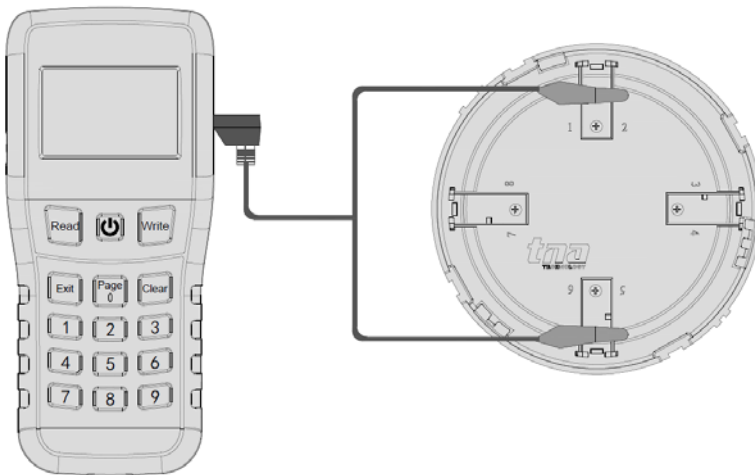

Figure 2
1. Connect the programming cable to Z1 and Z2 terminals (Figure 2). Press **"Power"** to switch on the unit.